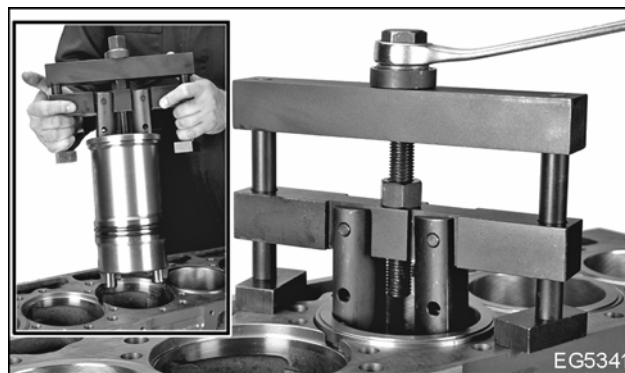

Figure 309 Removing cylinder sleeve from crankcase
1. Position the cylinder sleeve puller in the sleeve and spread the lifting jaws so the tangs grip the bottom of the sleeve (Figure 309).